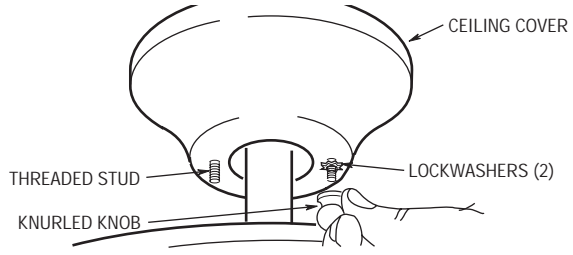

Figure 13
- 4. Lift the ceiling cover up to the threaded studs and turn until studs protrude through the holes in the ceiling cover (Figure 13).
- 5. Secure the ceiling cover in place by sliding lockwashers over the threaded studs and installing the two knurled knobs (supplied). (Figure 13). Tighten the knurled knobs securely until the ceiling cover fits snugly against the ceiling and the hole in the ceiling cover is clear of the downrod. Your fan is now wired to be turned on and off from the fan switch.